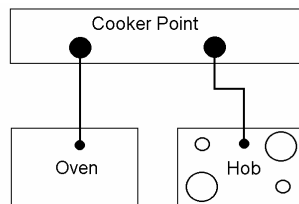

Fig. 2
- If you wish to connect an oven and a hob to a cooker point you can. Oven and hob units should be separately connected to a cooker point. See Fig. 2.